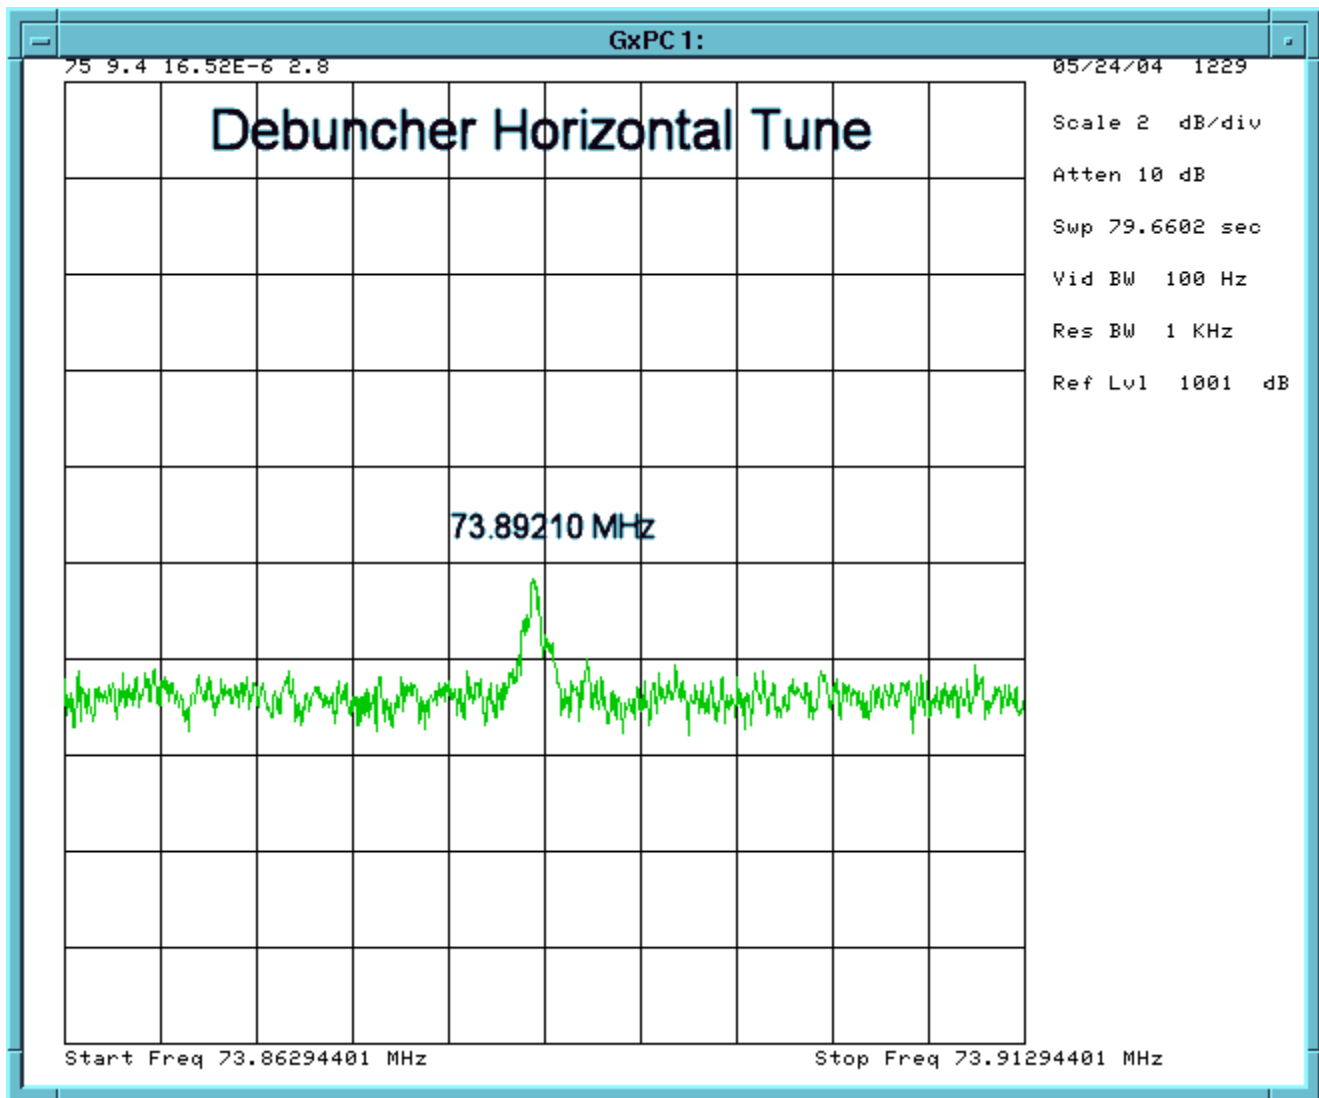

Figure 4: The default horizontal tune is $v_x = 9.77$ which corresponds to 73.89210 MHz on the spectrum analyzer.
13. Adjust the Debuncher tune in the plane that you are looking at from the mults in Figures 4 and 5. The default tune values are $v_x = 9.77$ and $v_y = 9.765$.